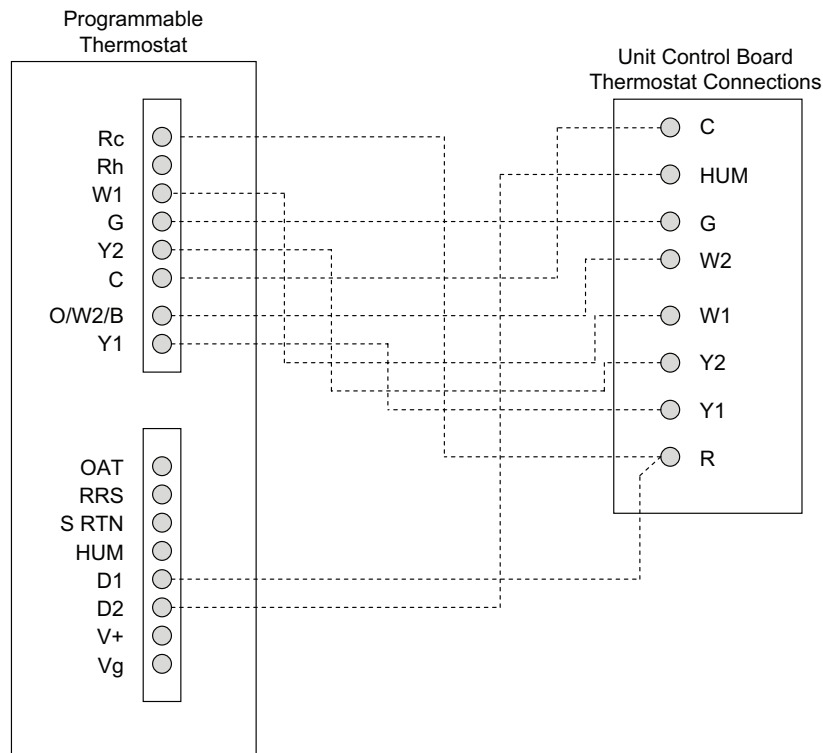

Fig. 58 — 48GC17-28 Unit with Humidi-MiZer Adaptive Dehumidification System with Edge® Pro Thermidistat Device**
3. The Thermidistat has dry contacts at terminals D1 and D2 for dehumidification operation (see Fig. 58). Connect D1 to the R terminal on the UCB. Connect D2 to the HUM terminal on the UCB. Refer to the installation instructions included with the Carrier Edge® Pro Thermidistat device for more information.